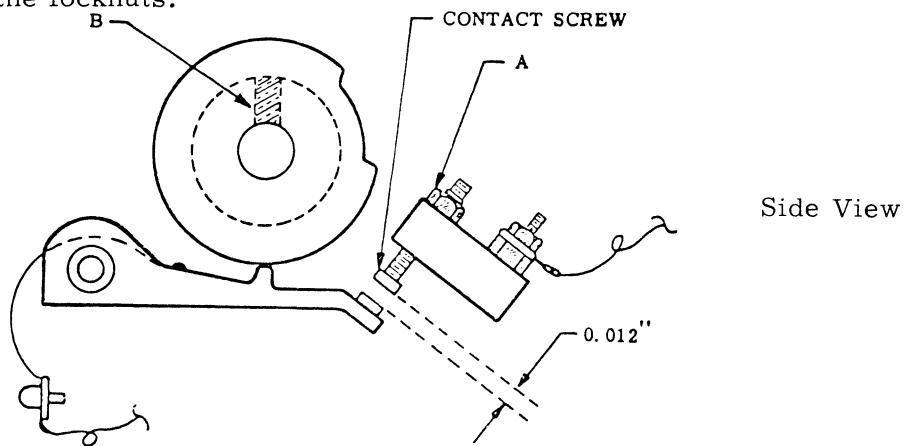

Figure 4-15. Cam Operated Circuit Breakers
11. CAM OPERATED CIRCUIT BREAKERS (figure 4-15)